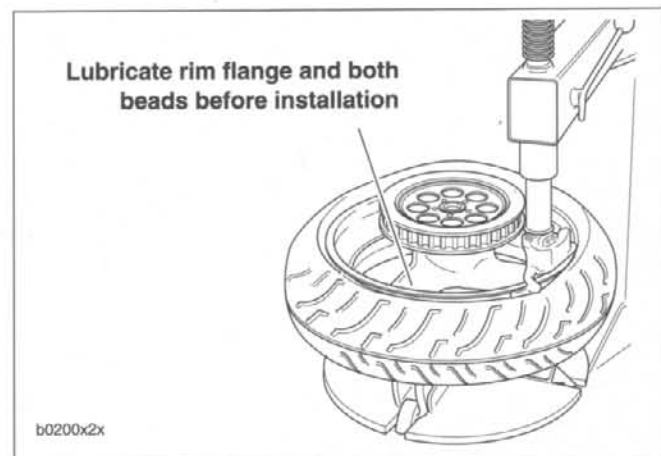

Figure 2-22. Starting Bead on Rim
4. See Figure 2-22. Starting at the valve stem, start first bead into the rim well using a bead breaker machine. If no machine is available, work bead on as far as possible by hand. Use a tire tool to pry the remaining bead over rim flange.